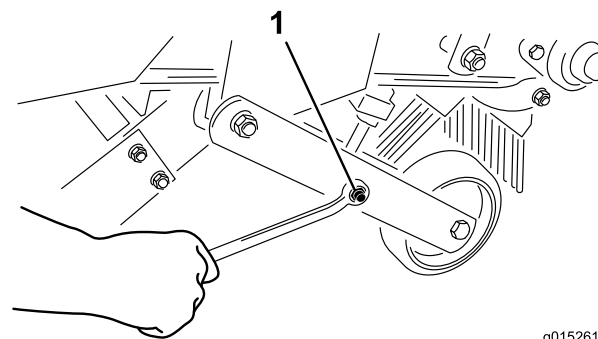

Figure 10
2. Loosen the locknut on the depth adjustment bolt so that it can be turned (Figure 10).